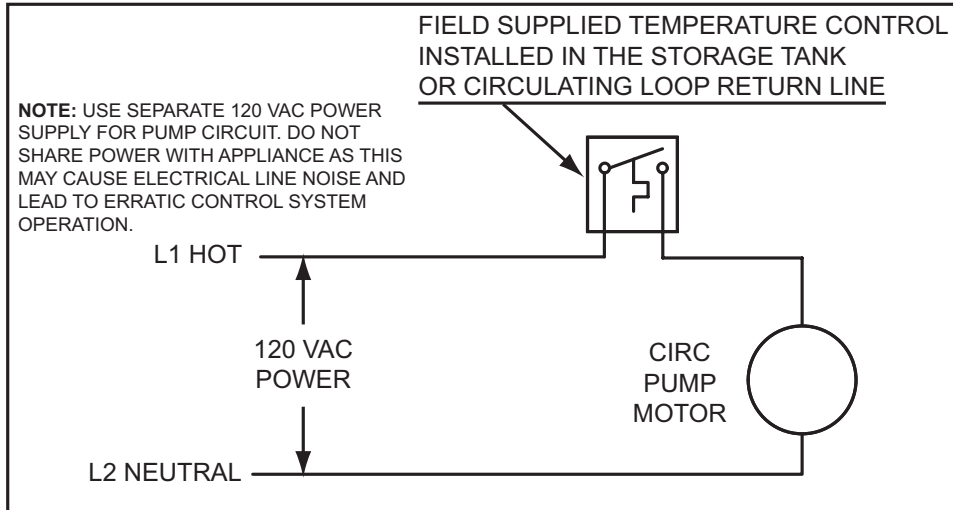

Figure 62
6. If a pump is being installed between a water heater and storage tank or on a building recirculation loop wire according to Figure 62 on page 68.